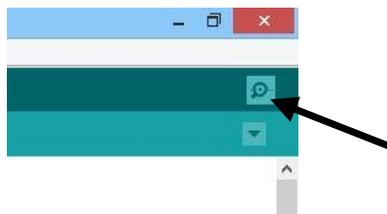

Figure 26: Button to open the serial monitor
The first step to calibrate the robot is to find the microsecond pulse delay that corresponds to a  $5^\circ$  position of Servo 1. To do this, upload `RRR_microsecond_calibrate_pot.ino` to the Arduino. You will next need to open the Arduino's serial monitor. To do this click on the serial monitor button as shown in Figure 26.
- 3: Open serial monitor (Fig. 26)